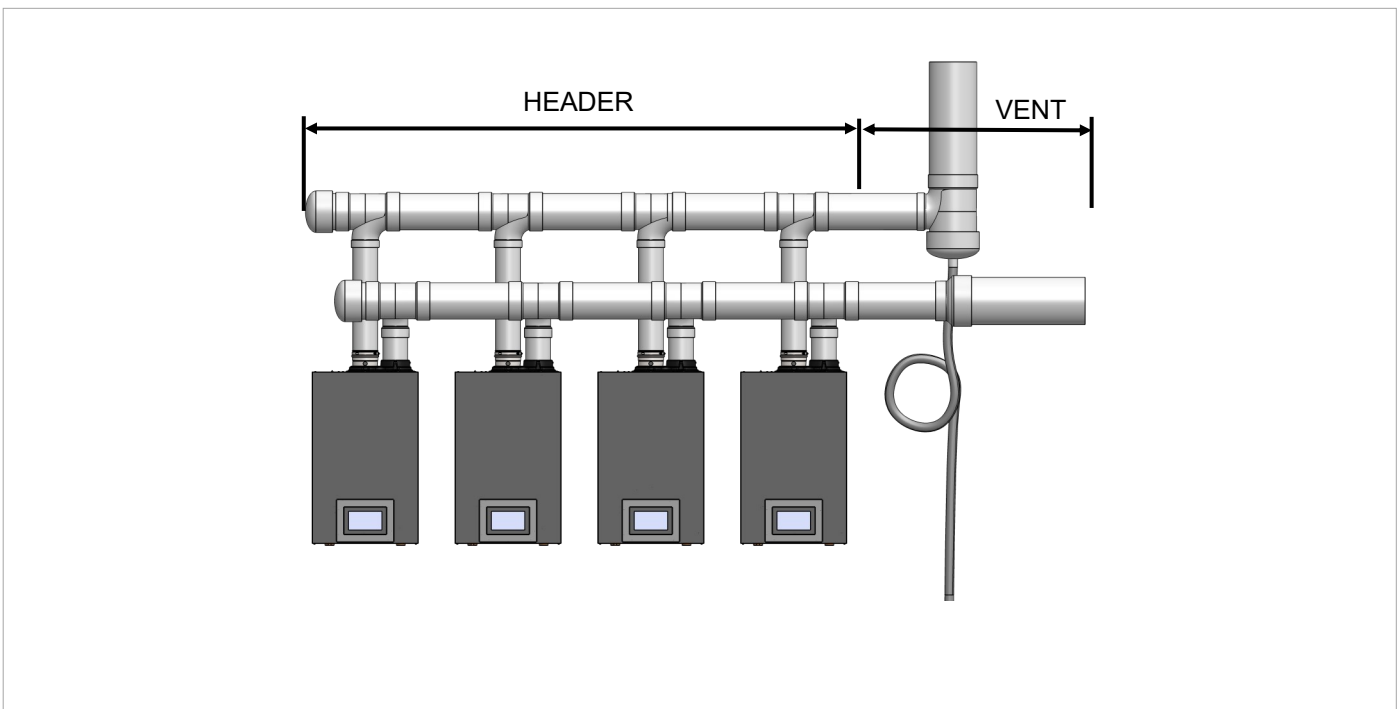

Fig 6. Header, Vent Length and Condensate Trap
- PVC/CPVC common venting should include a condensate drain and trap between the header and vent length. Condensate trap must include a loop that can hold 6 in. (15 cm) of water (Fig 6).